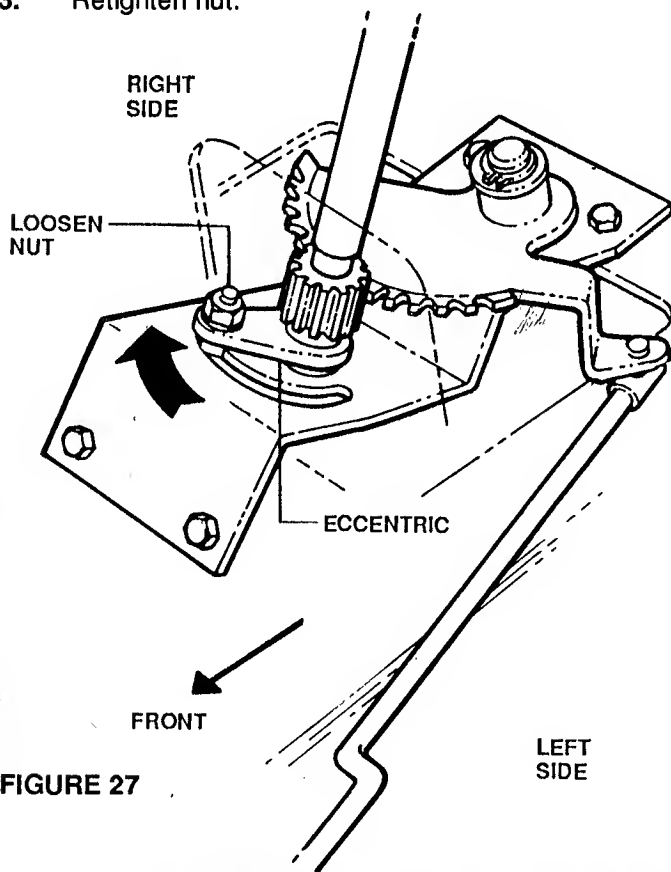

FIGURE 27
1. Working from the left side of the tractor, use a 7/16" wrench to loosen nut on top of carriage bolt. See Figure 27.